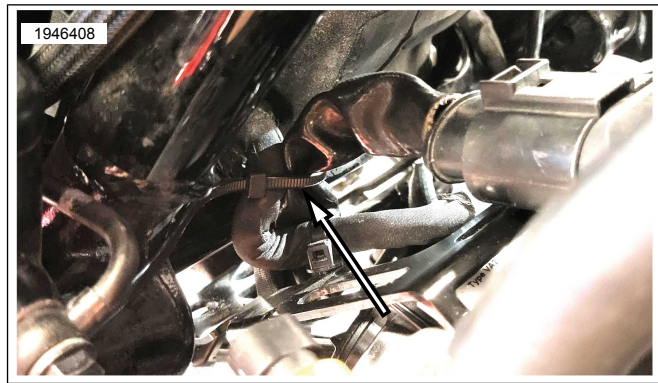

Figure 25. Tight Cable Strap
16. See Figure 25 and Figure 25. Secure voltage regulator harness into position with cable strap around regulator harness and coolant pump harness in location shown.